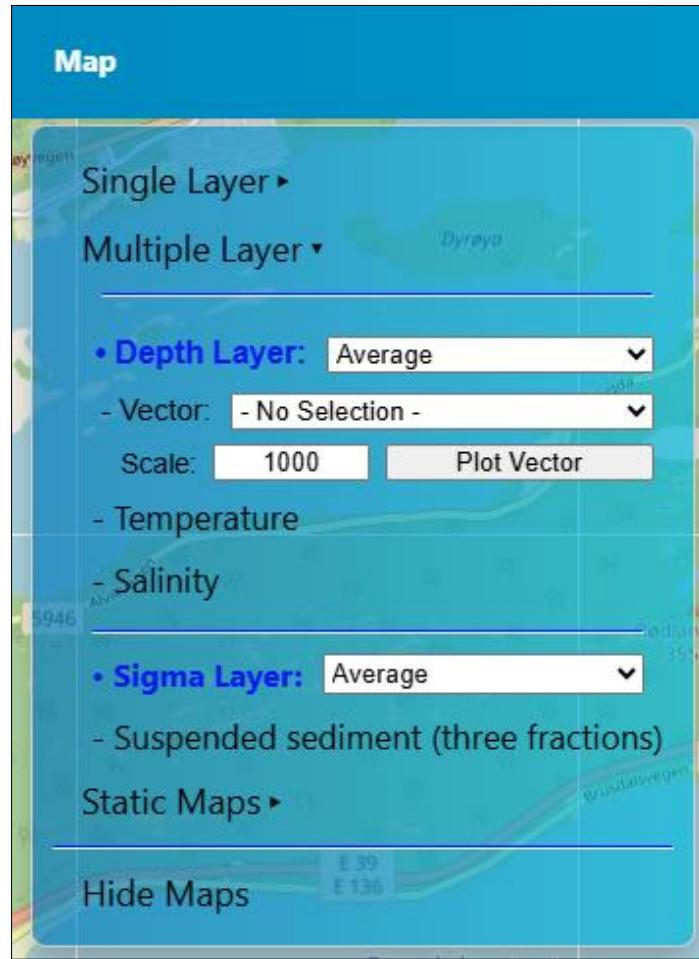

Figure 1.7. Map option
- *Map*: this option provides the ability to visualize many types of maps, including both static and dynamic maps, single and multiple layers (**Figure 1.7**).